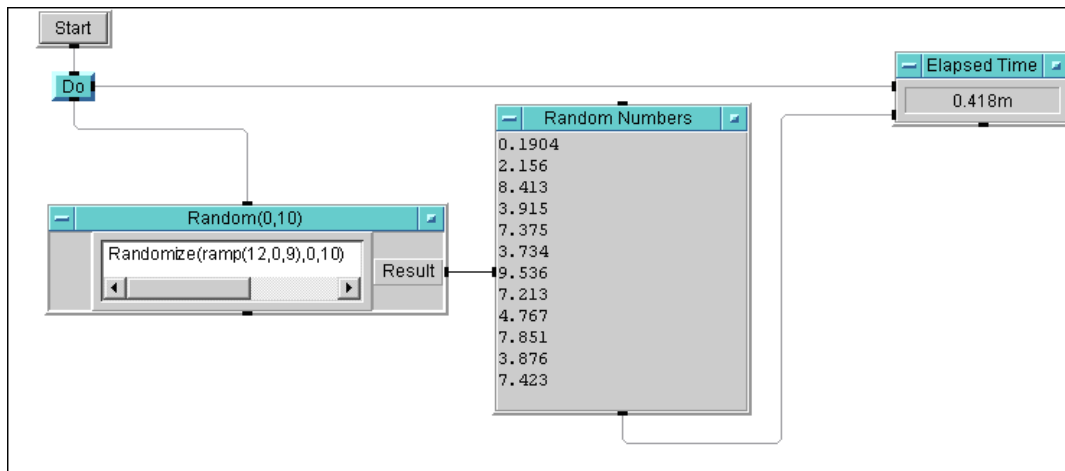

Figure 1-24 A faster random number generator implementation
- 6 Connect the terminals as follows: bottom of Start to the top of Do; bottom of Do to the top of Random(0,10); the right-hand terminal of Do to the top input of Elapsed Time; the bottom input of Elapsed Time to the bottom of Random Numbers; and the Result of Random(0,10) to the input of Random Numbers. Run this program. It should look like Figure 1-24.